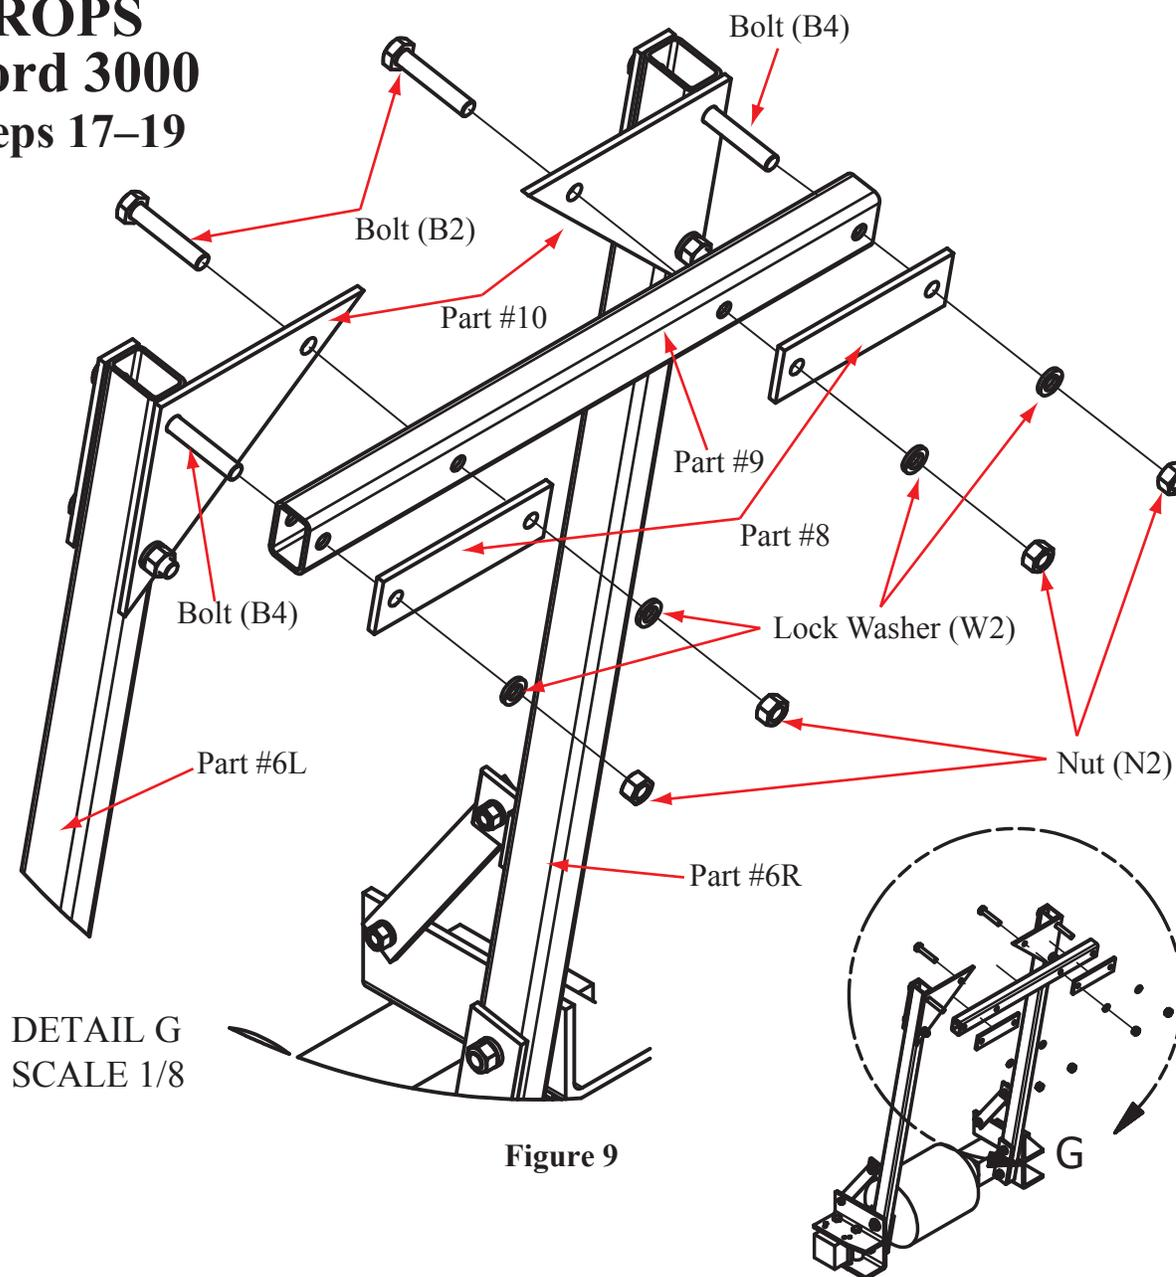

Figure 9
Step 19. Insert bolts (B2) through the remaining inside holes of the corner plates (#10), the cross bar (#9), and the cross bar backing plates (#8). Create a snug fit with a lock washer (W2) and a nut (N2). Snug the connections made in steps 17 and 18. (Figure 9)